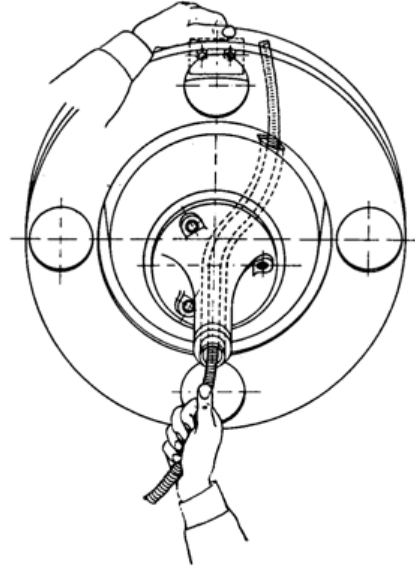

Figure 6
3. Face the machine from the front. Place your left hand on top of the external drum; press the heads of the cable clamp screws forward with two fingers of your left hand, steadying the external drum with the palm of your left hand. Sight through the cut-out in the cover of the external drum and rotate the inner drum with your right hand; position the inner drum so that the distributor arm is aligned slightly to the right of the cable clamp. See Figure 6.